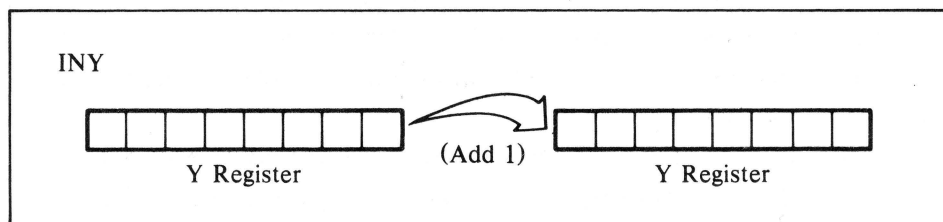

Figure 9-3. Increment Y register quantity
- **INY** — Increments the quantity in the Y register (see Figure 9-3).